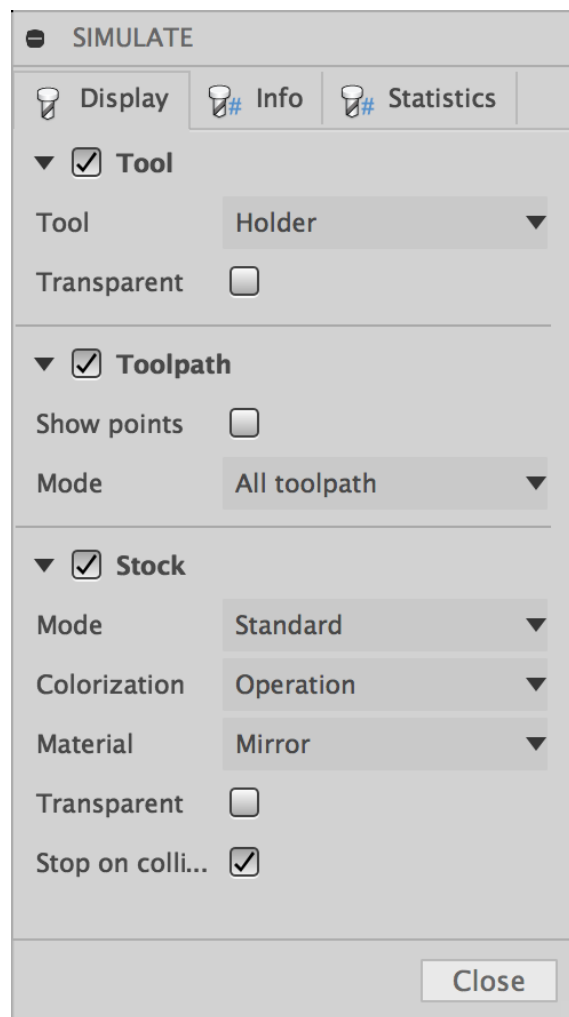

FIGURE 1.35: APPROPRIATE SIMULATION SETTINGS.
- Match your simulation settings to Figure 1.35.